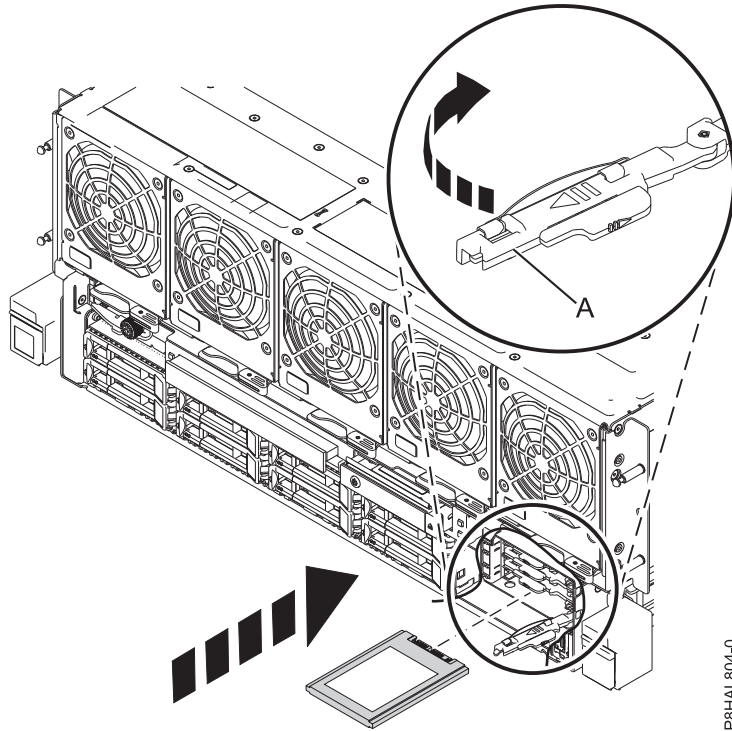

Figure 20. Replacing the solid-state drive
- b. Slide the SSD into the system until the drive stops, and then lock the SSD by rotating the handle (A) in the direction shown.
- c. Lock the drive by rotating the handle (A) in the direction that is shown in Figure 20 on page 17.